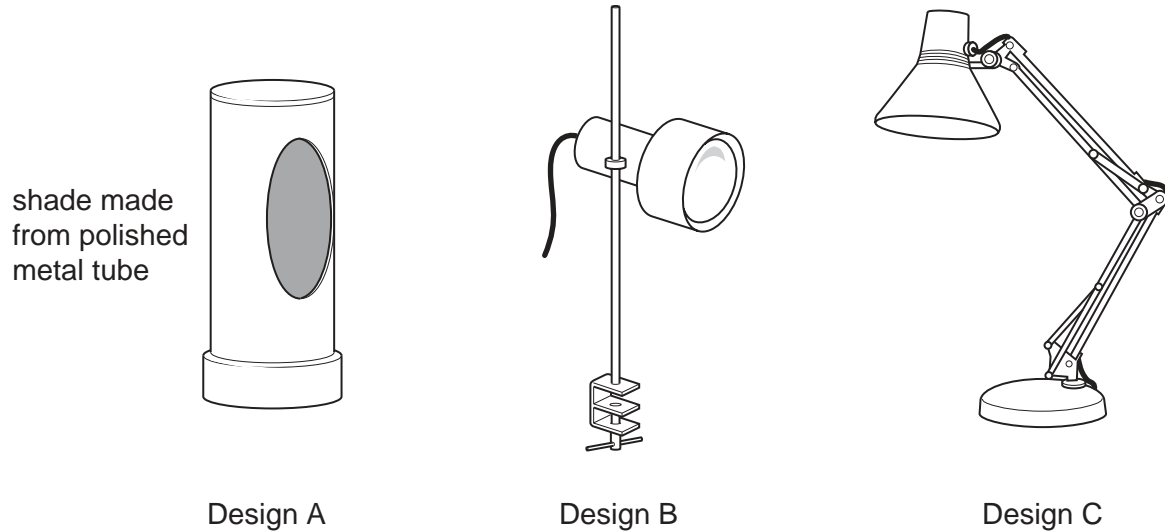

Fig. 4
- 4 A range of desk lamp designs is shown in Fig. 4.